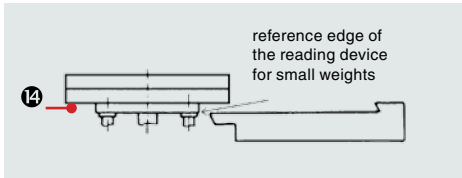

Fig. 3a: reading device
- Turn the change-over valve ⑮ to “Admission pressure/Vordruck”.
- Slowly open dosing valve “Admission pressure/Vordruck” ⑩. Close it again as soon as the required pressure is reached.
- Switch on the electric drive via switch ⑲.
- Readjust the pressure via star handle of the spindle until the piston is in measuring position (⇒ Figure 3a or 3b).